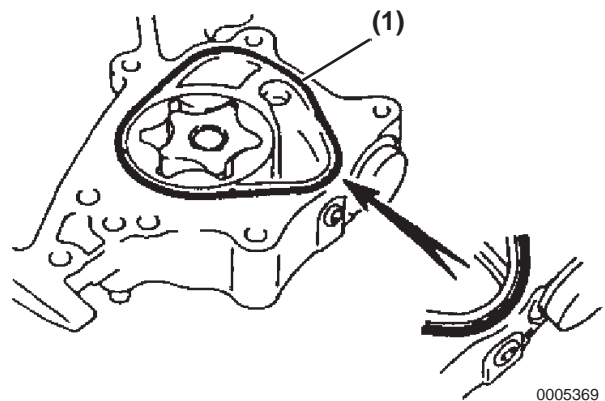

Figure 8-17
4. Install a new O-ring (**Figure 8-17, (1)**) in the groove of the timing gear case. Use seal packing (TOYOTA P/N 08826-00080 or equivalent).